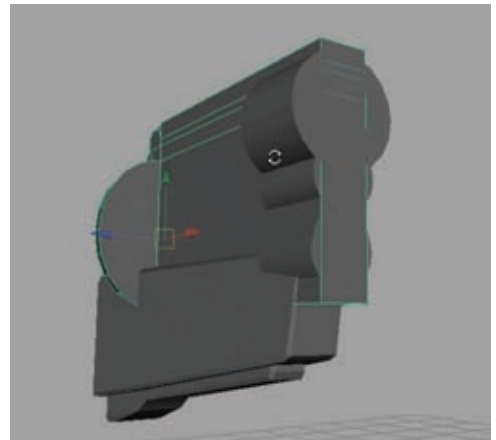

Figure 3.29
11. Now, selecting all of the forward-facing faces running down the middle, extrude them all the way to the right, aligning them with the forward edge of the three cylinders we created earlier (Figure 3.29).